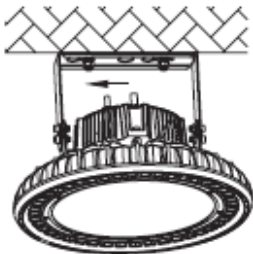

Fig. 6
- Lift the fitting up to the expansion bolts and slide into the bracket (see Fig. 6)